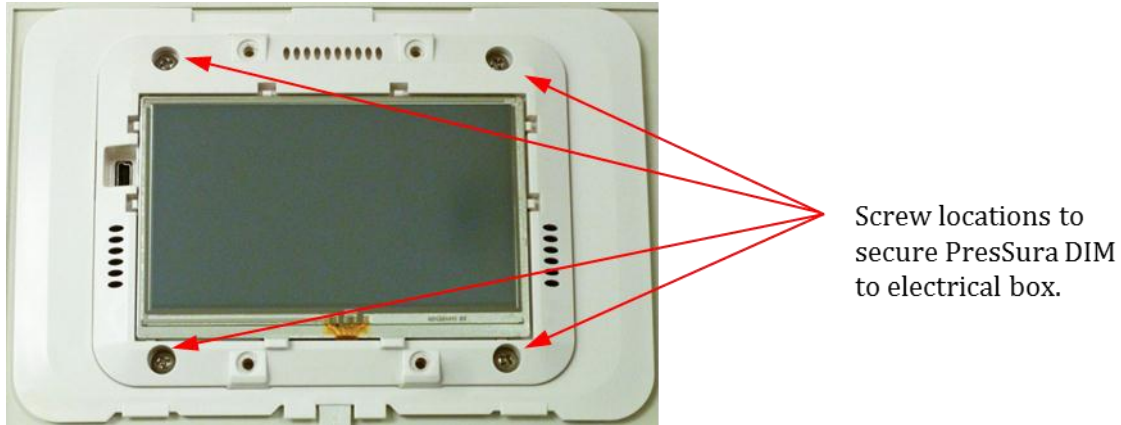

Figure 7: Pressure Monitor Mounting
- Screw PresSura DIM to electrical box (Figure 7).